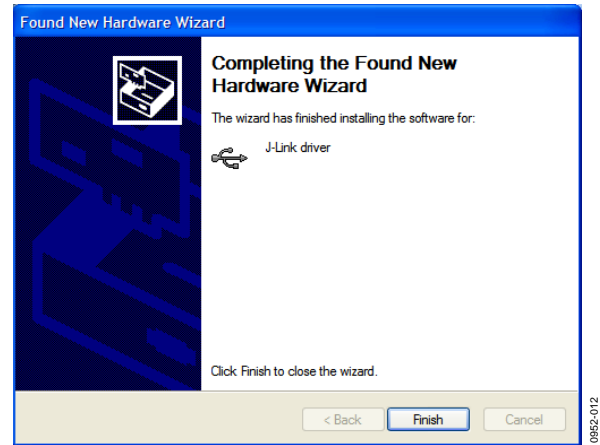

Figure 12. Found New Hardware Wizard Complete
7. When the Found New Hardware Wizard window (see Figure 12) appears, select **Finish**.